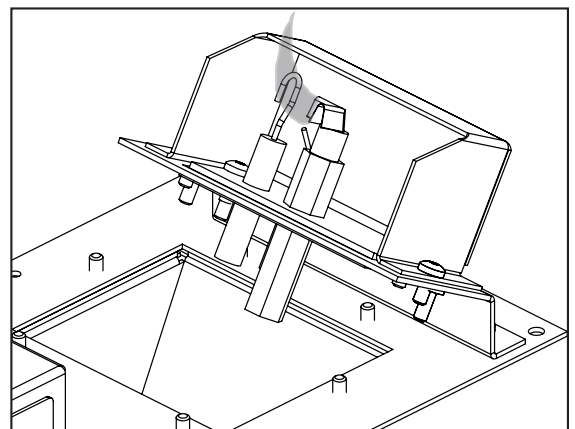

Figure 12: Flame Sensor Coverage
12. Relight the pilot and confirm the flame properly covers the flame sensor hook (see Figure 12). Should the pilot require adjustment, turn the adjustment screw clockwise to decrease or counterclockwise to increase until the correct flame is achieved